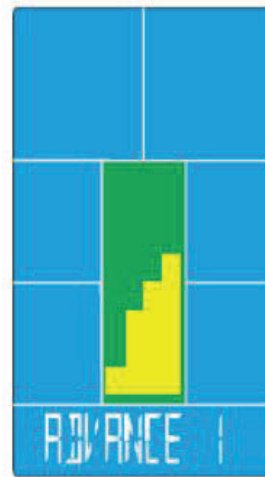

Fig. 8
*You can now choose from Advance 1 - 4 (see fig. 8 and fig. 9).*